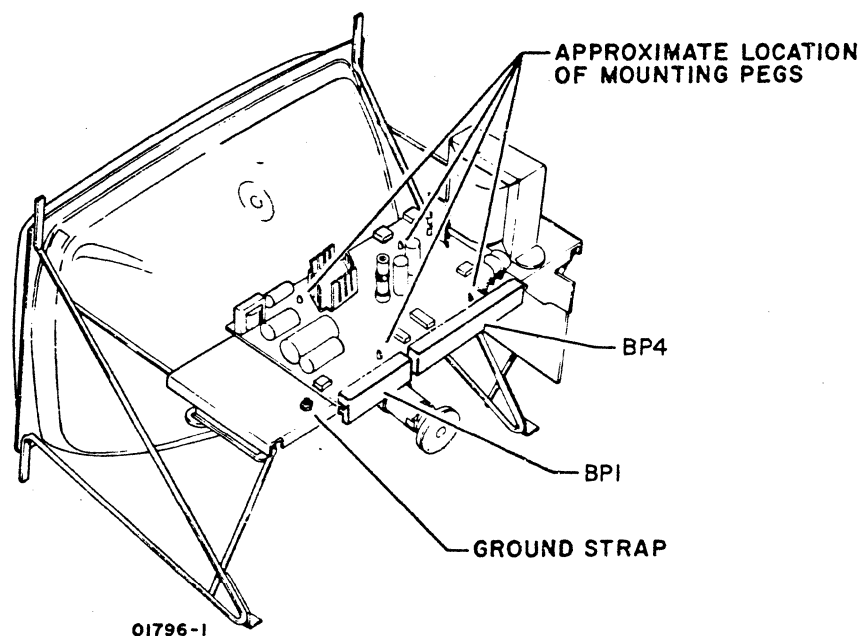

Figure CRT11. Video Module Printed-Circuit Board Connections
- 2) Disconnect connector BP1 (see figure CRT11).
- 6) Compress retainer clips on mounting pegs and release clips by pressing downward. Do for all four pegs. After releasing printed-circuit board from all four pegs, lift board to remove from video module (see figure CRT11).